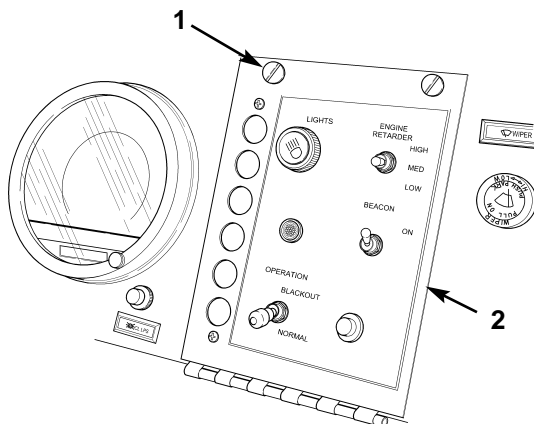

Figure 5. Opening Center Control Panel.
8. Turn two turnlock fasteners (figure 5, item 1) 90 degrees, and open center control panel (figure 5, item 2).